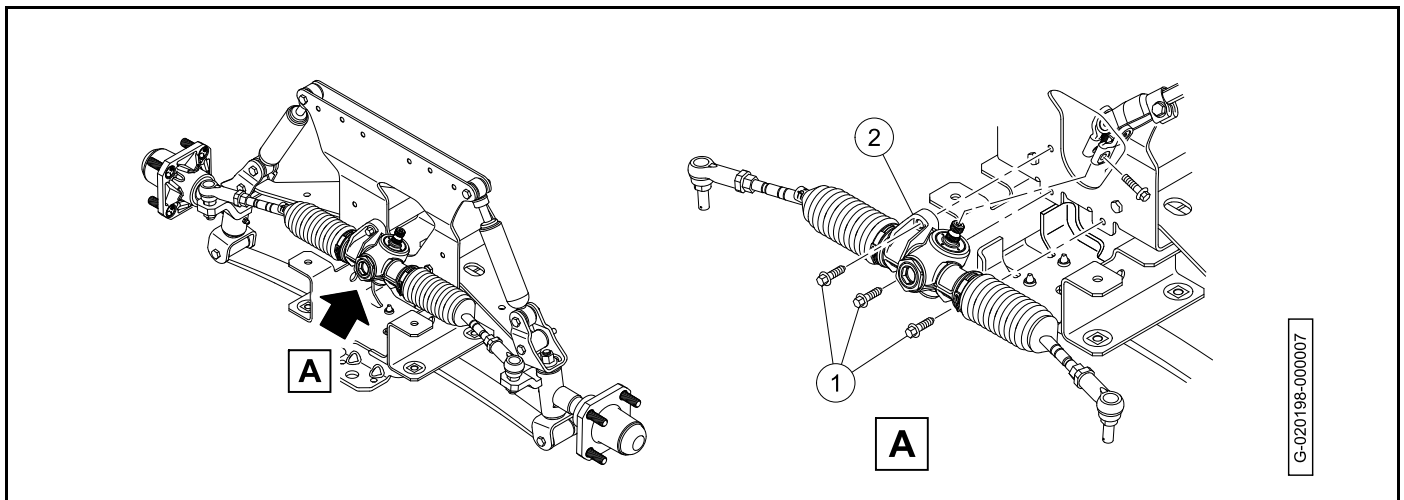

Figure 7-30
4. Remove the bolts (1) (Figure 7-30).